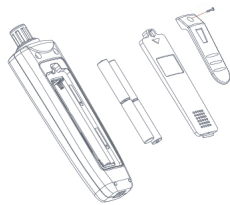

Figure 3
**● Replacing the battery (See Figure 3)**